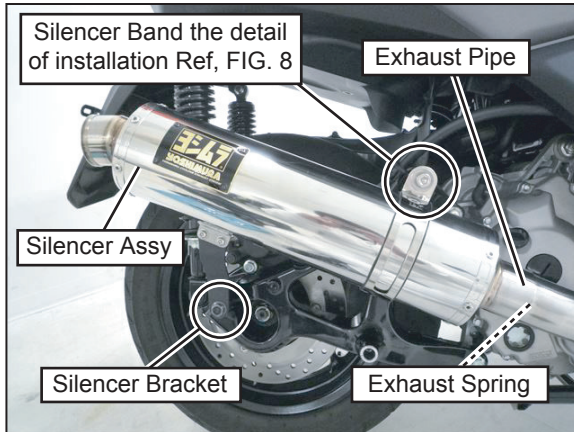

FIG. 6
- 5) Install Silencer Assy to Exhaust Pipe. Then, fix them with the Exhaust Spring and attach Silencer Bracket to Stock silencer mount with Stock Bolt (See Fig. 6, 7) Tighten bolts by hand only at this stage.
- 6) Place Silencer Band Rubber into Silencer Band and attach Silencer Band on Silencer Assy. Then, fix Silencer Band to Stock silencer mount with Cap Bolt M10x55, Washer M10x22 and Spacer 10-24-10 (See Fig. 6 & 7) Tighten the nut by hand only at this stage.